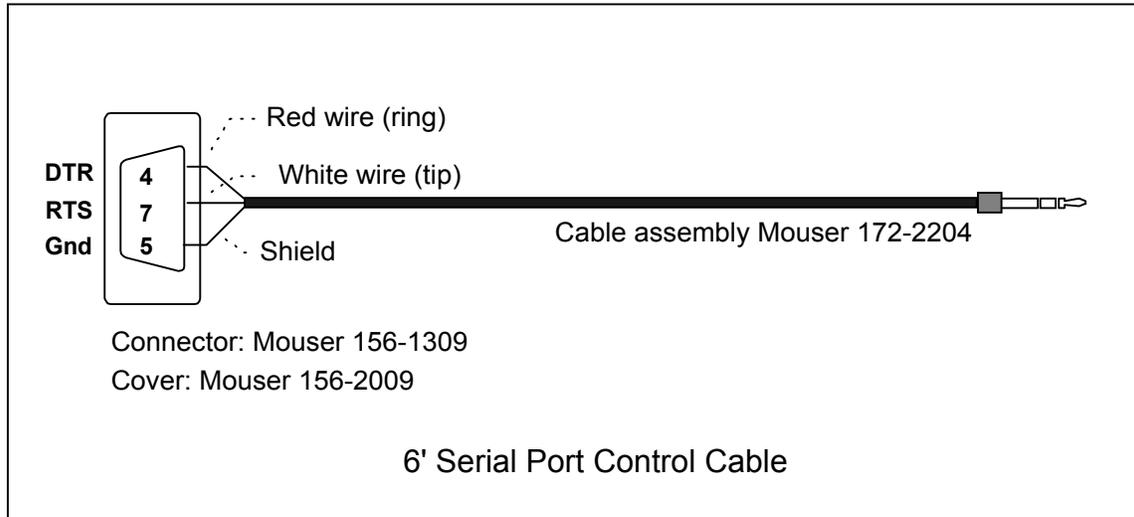

Figure 5.4 Serial Port Control Cable
5.2.1 Serial Port Cable - The Serial Port Cable is a 6 foot cable with a DB9 (female receptacles) on the PC end, and a three conductor 2.5mm stereo plug on the interface end. The two control signals RTS and DTR are carried on this cable. See Figure 5.4 for details on construction of this cable. All parts for this cable are included in the parts list.